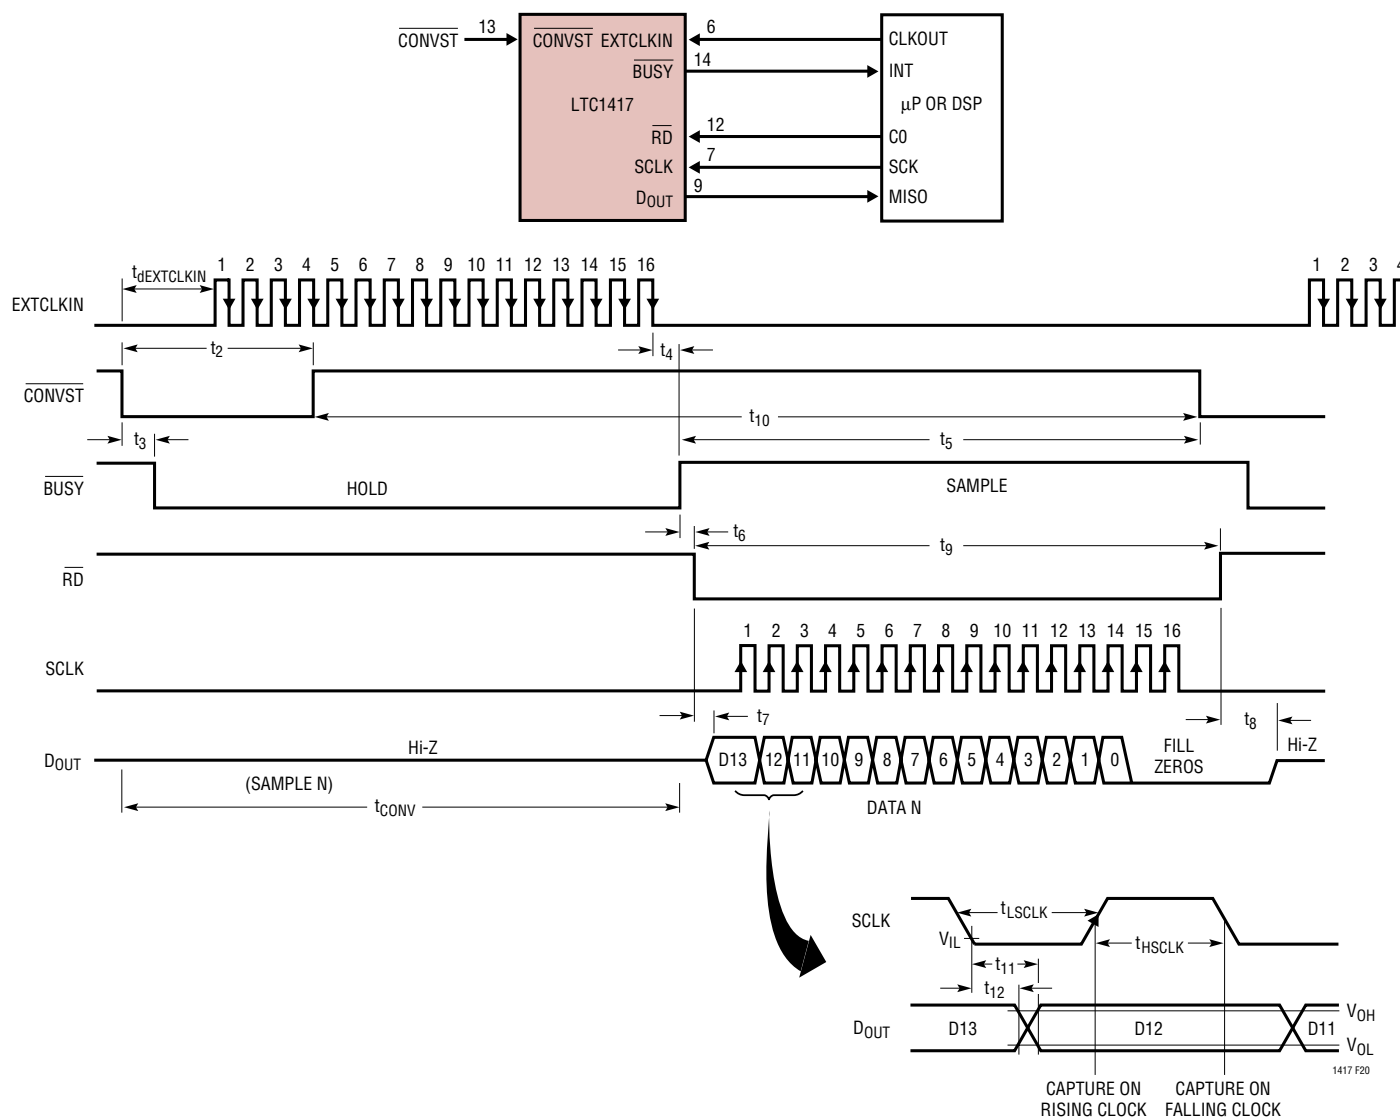

**Figure 19. Internal Conversion Clock Selected. Data Transferred After Conversion Using an External SCLK. BUSY↑ Indicates End of Conversion**
**Using an Internal Conversion Clock and an External Data Clock.** In this mode, data is output after the end of each conversion and before the next conversion is started (Figure 19). The internal clock is used as the conversion clock and an external clock is used for the SCLK. This mode is useful in applications where the processor acts as a serial bus master device. This mode is SPI and
**Using an External Conversion Clock and an External Data Clock.** In Figure 20, data is also output after each conversion is completed and before the next conversion is started. An external clock is used for the conversion clock and either another or the same external clock is used for the SCLK. This mode is identical to Figure 19 except that an external clock is used for the conversion. This mode allows the user to synchronize the A/D conversion to an external clock either to have precise control of the internal bit test timing or to provide a precise conversion time. As in
Figure 19, this mode works when the SCLK frequency is very low (less than 30kHz). However, the external conversion clock must be between 30kHz and 9MHz to maintain accuracy. If more than 16 SCLKs are provided, more zeros will be filled in after the data word indefinitely. To select the external conversion clock, apply an external conversion clock to EXTCLKIN. The external SCLK is applied to SCLK.  $\overline{RD}$  can be used to gate the external SCLK such that data will be clocked out only after  $\overline{RD}$  goes low.